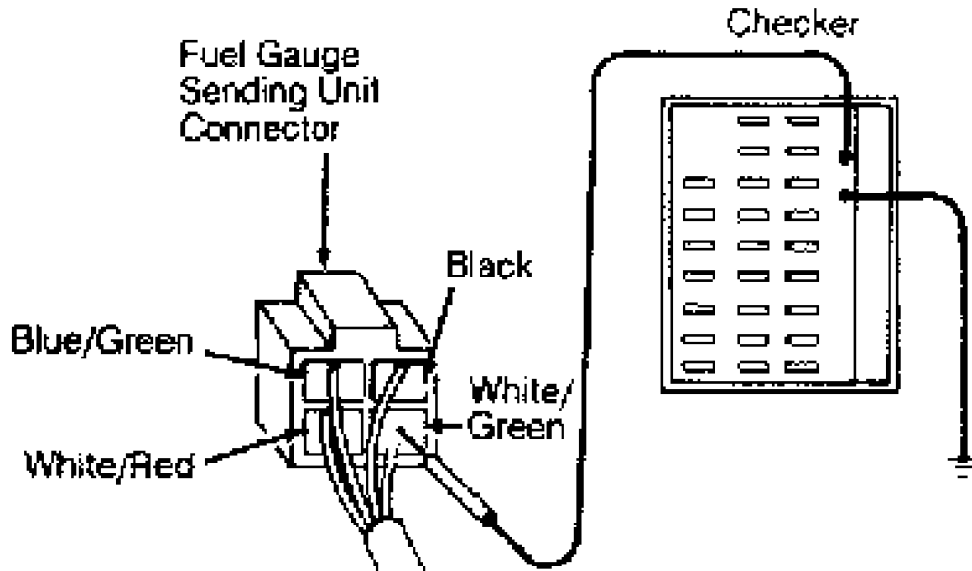

Fig. 4: Testing Fuel Gauge Resistance (RX7)
2) Connect Red wire lead of Checker (49-0839-285) to White/Green wire terminal (harness side) of sending unit connector. See Fig. 4. Connect checker Black wire lead to body ground.